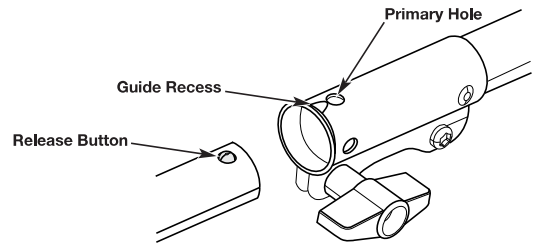

Fig. 5
4. Align the release button with the guide recess (Fig. 5).
3. Press and hold the release button (Fig. 5).